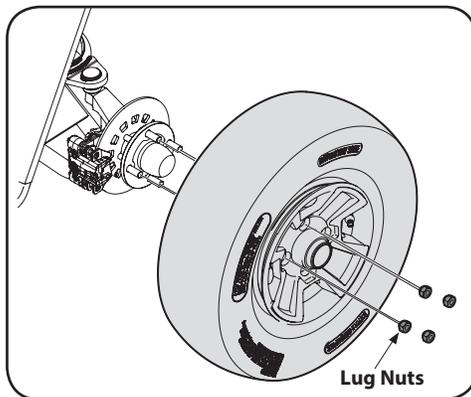

Figure 6-12
- Loosen but do not remove the four lug nuts from the axle hub. See Figure 6-12.